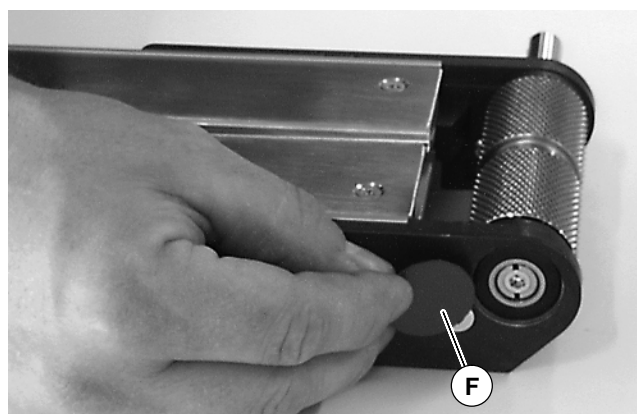

Figure 15
16. Install bearing cover (F of Figure 15) into head plate.